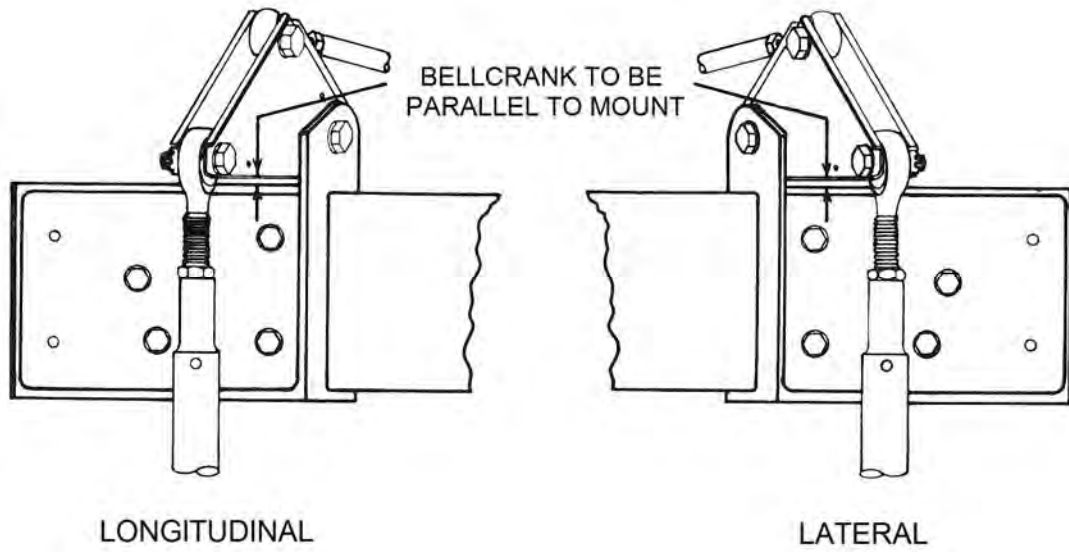

Figure 12-14. Cyclic Bellcranks Parallel to Mount
7. Place the pilot's cyclic stick in the full forward position (bellcrank aft against stop) and centered laterally. Position bellcrank (9) so the lower edge is parallel to its cabin mount. Adjust length of rod (10) to maintain in this position (Figure 12-14). Secure check nuts.
8. Connect longitudinal trim actuator to bellcrank (7) if disconnected (para. 12-6, H).
9. Place the pilot's cyclic stick in the full left position and centered longitudinally. Position bellcrank (11) so the lower edge is parallel to its cabin mount. Adjust the length of rod (12) to maintain this position (Figure 12-14). Secure check.